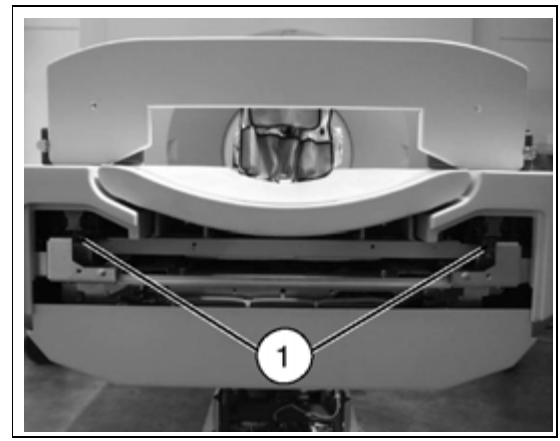

Fig. 9: Linear guides of the tabletop (foot-end of table)
- Place the connector of the lubricant gun on one of the lubrication fittings of the guide rail to be lubricated (1/Fig. 9 / p. 29).